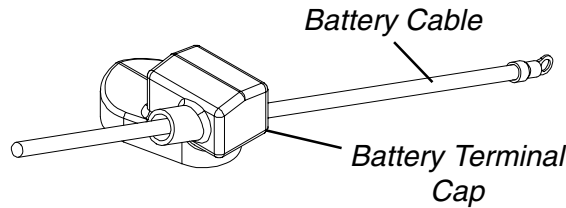

FIGURE 6 - INSTALLING TERMINAL CAPS
**SECTION E - INSTALLING TERMINAL CAPS (FIGURE 6)**